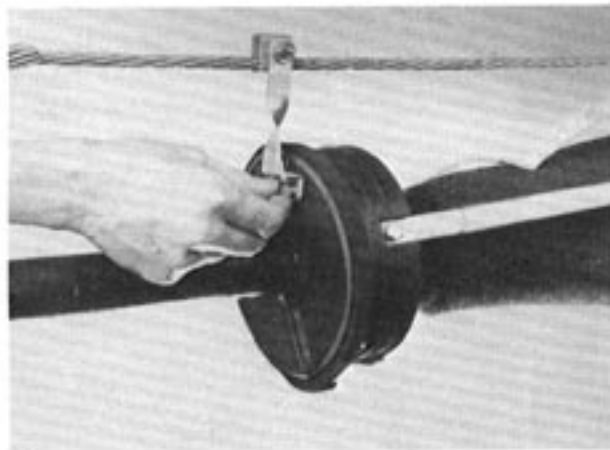

FIGURE 33 - ATTACHING HANGERS TO END PLATE
11.02 Attach the hangers to the outside surface of each End Plate using the bolts supplied (Figure 33). Do not tighten the bolts at this time.